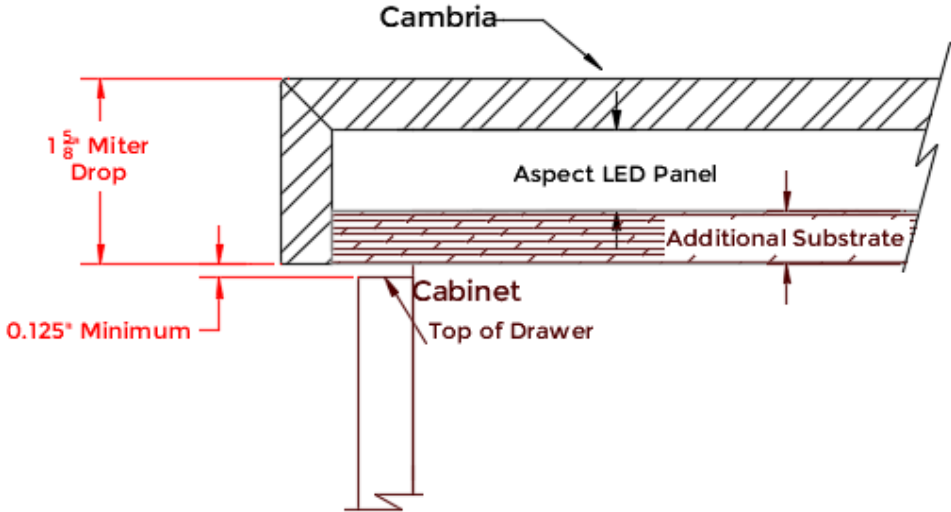

Figure 3
- b. **EXAMPLE TWO:** Figure 3 illustrates a case in which additional buildup is needed beneath the Aspect LED panel to achieve proper drawer spacing.